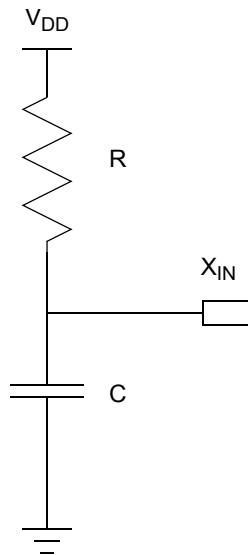

Figure 40. Connecting the On-Chip Oscillator to an External RC Network
The External RC oscillator mode is applicable to timing insensitive applications. Figure 40 displays a recommended configuration for connection with an external resistor-capacitor (RC) network.